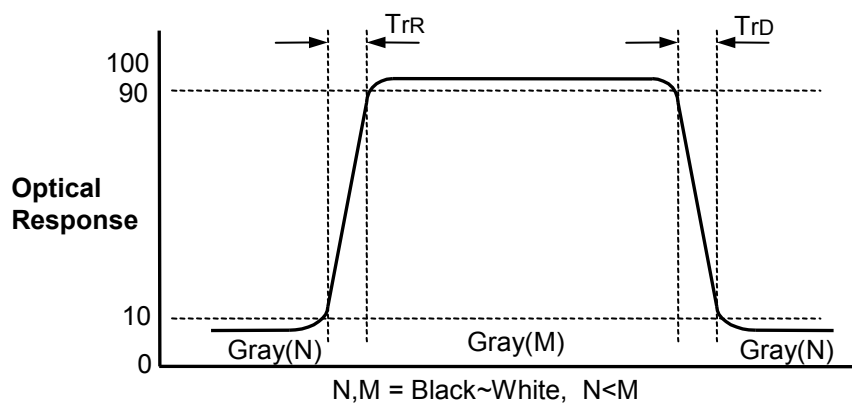

FIG.3 Response Time(G to G)
4. Response time is the time required for the display to transit from G(N) to G(M) (Rise Time,  $Tr_R$ ) and from G(M) to G(N) (Decay Time,  $Tr_D$ ). For additional information see the FIG. 3. ( $N < M$ )